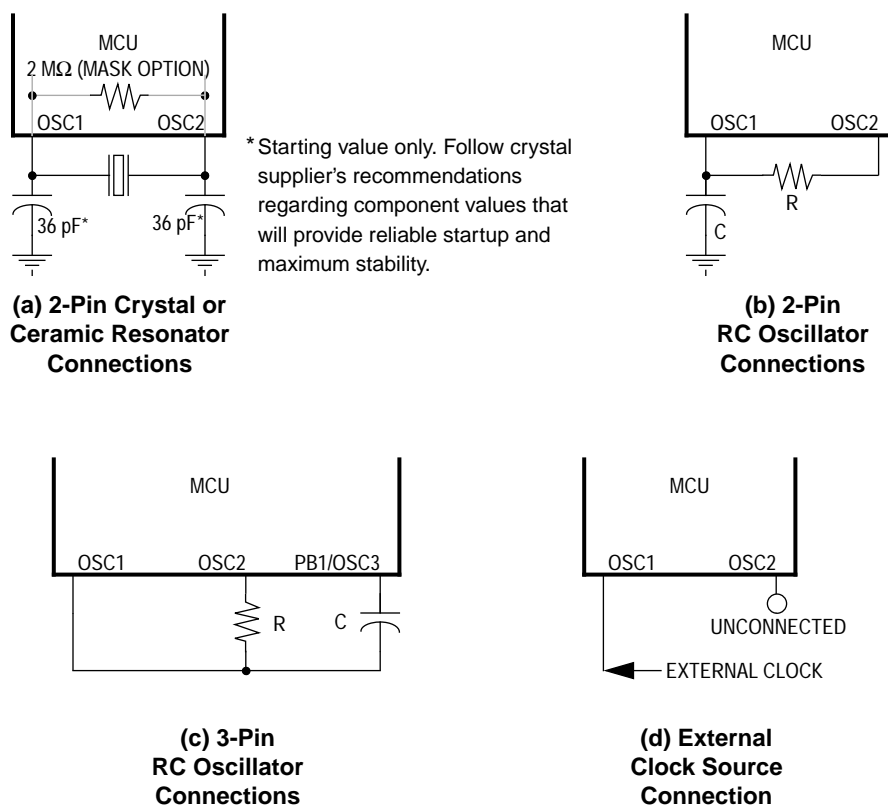

Figure 1-3. Oscillator Connections
1. A crystal, as shown in Figure 1-3\(a\)
2. A ceramic resonator, as shown in Figure 1-3\(a\)
3. An external resistor and capacitor using two pins, as shown in Figure 1-3\(b\)
4. An external resistor and capacitor using three pins, as shown in Figure 1-3\(c\)
5. An external clock signal, as shown in Figure 1-3\(d\)
The circuit in **Figure 1-3(a)** shows a typical 2-pin oscillator circuit for an AT-cut, parallel resonant crystal. The crystal manufacturer's recommendations should be followed, since the crystal parameters determine the external component values required to provide maximum stability and reliable startup. The load capacitance values used in the oscillator circuit design should include all stray capacitances. The crystal and components should be mounted as close as possible to the pins for startup stabilization and to minimize output distortion. An internal startup resistor of approximately 2 MΩ is provided between OSC1 and OSC2 when the crystal/ceramic resonator oscillator option is used.
In cost-sensitive applications, a ceramic resonator can be used instead of the crystal. The circuit in Figure 1-3\(a\) is for a ceramic resonator also. The resonator manufacturer's recommendations should be followed, since the resonator parameters determine the external component values required for maximum stability and reliable starting. The load capacitance values used in the oscillator circuit design should include all stray capacitances. The ceramic resonator and components should be mounted as close as possible to the pins for startup stabilization and to minimize output distortion. An internal startup resistor of approximately 2 M Ω is provided between OSC1 and OSC2 for the crystal/ceramic resonator oscillator mask option register bit.
The 2-pin RC oscillator configuration can be used for very low-cost applications. With this option, a resistor must be connected between the two oscillator pins and a capacitor must be connected from the OSC1 pin to V_{SS} , as shown in Figure 1-3\(b\). The signal on the OSC2 pin is a square wave and the signal on the OSC1 pin approximates a triangular wave.
Another low cost, but more accurate, type of RC oscillator is the 3-pin configuration utilizing the PB1/OSC3 pin. With this option, a resistor must be connected between the OSC1 and OSC2 pins and a capacitor must be connected between the OSC1 and PB1/OSC3 pins, as shown in **Figure 1-3(c)**. This 3-pin RC oscillator is more accurate than the 2-pin RC oscillator with respect to temperature, supply voltage, and/or device processing variations. The signal on the OSC2 and PB1/OSC3 pins is a square wave and the signal on the OSC1 pin approximates a triangular wave.
An external clock from another CMOS-compatible device can be connected to the OSC1 input, with the OSC2 input not connected, as shown in **Figure 1-3(d)**. This configuration is possible regardless of whether the oscillator is set up for crystal/ceramic resonator, 2-pin RC, or 3-pin RC operation. However, if the 3-pin RC oscillator is selected, the PB1/OSC3 pin also must be left unconnected.